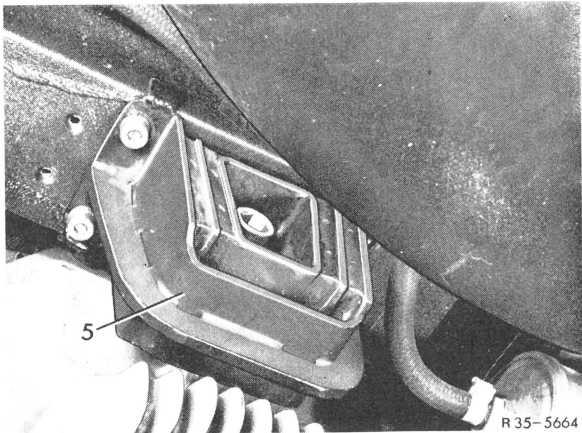

Fig. 2
- 2 Unscrew hexagon socket bolts on frame floor and lower rear axle slightly (Fig. 2).
- 5 Lift rear axle and attach rubber mount to frame floor. Tighten hex. socket bolts to 2,5 kpm (Fig. 2).